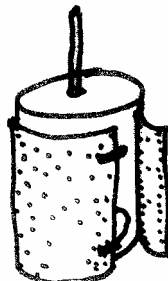

Figure 10.31 – Retrofit geyser mantles on existing geyser
- ❖ Geyser mantles greatly improve the efficiency of standard SABS approved geysers. *Fig10.31*